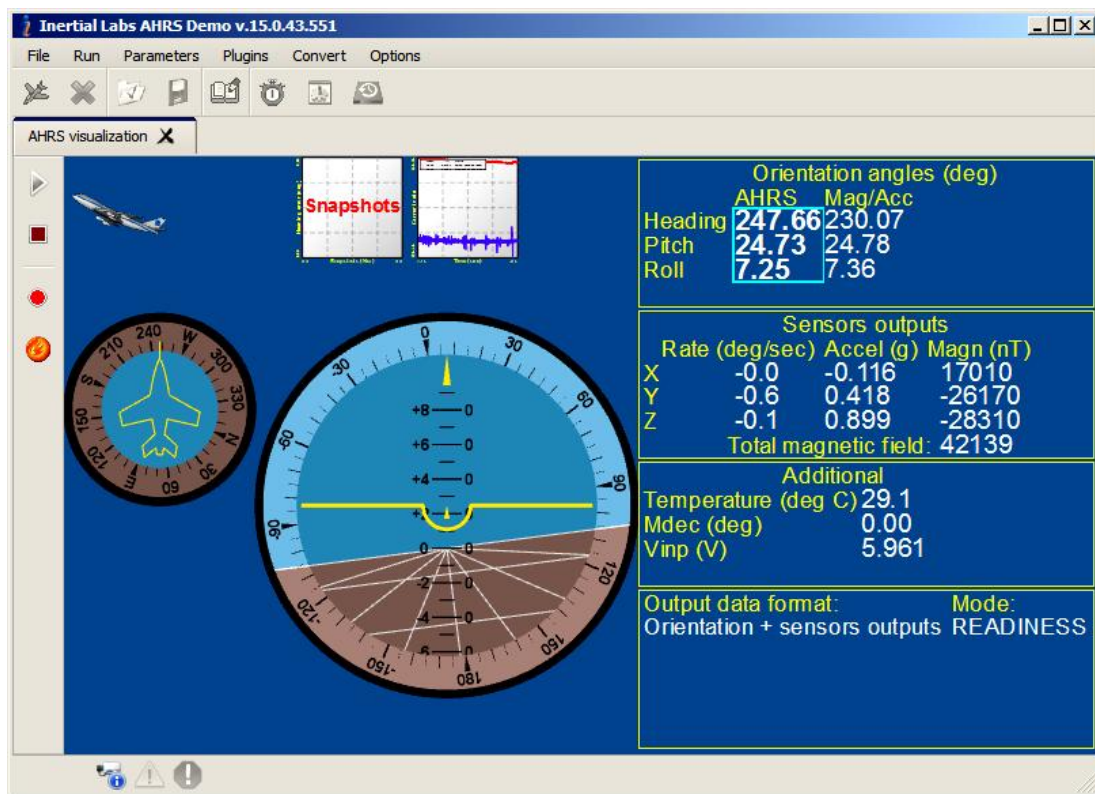

Fig. 3.5
- “**Cockpit**” by clicking on preview shown in the Fig.3.4b and window shown in the Fig. 3.5 will appear;